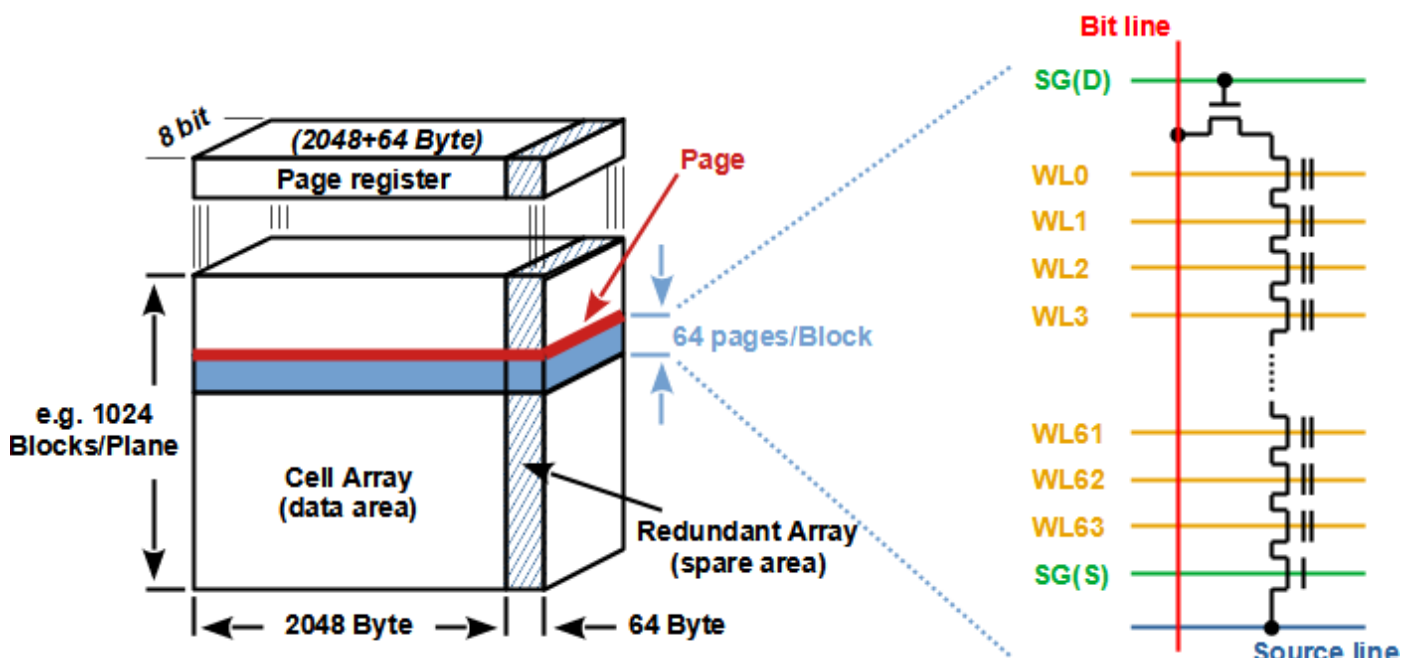

Figure 2: NAND flash internal structure.
- **NAND flash internal structure** (see Figure 2): The hierarchical structure of NAND Flash starts at a cell level which establishes strings, then pages, blocks, planes and ultimately a die. A string is a series of connected NAND cells in which the source of one cell is connected to the drain of the next one. Depending on the NAND technology, a string typically consists of 32 to 128 NAND cells. Strings are organised into pages which are then organised into blocks in which each string is connected to a separate line called a bit line. All cells with the same position in the string are connected through the control gates by a word line. A plane contains a certain number of blocks that are connected through the same bit line. A flash die consists of one or more planes, and the peripheral circuitry that is necessary to perform all the read / write / erase operations.
- **Erasing NAND flash:** Flash memory allows only two states – erased and non-erased. Particular bit of data can be written only if the media is in erased state. Once written, the bit is considered not usable for other write operation. Write operation on flash device can be accomplished only on erased units, so a write operation must be preceded by an erase operation. Only erase operation can revert programmed cells to erased state. During the erase, all cells on a bit string (see Figure 2) are erased, forming a huge block of flash – so called erase block. As a result, it is not possible to erase single cell in flash array. During the erasing, the ready / busy signal (R/B# pin or ready / busy flag in STATUS register) is low to indicate that the